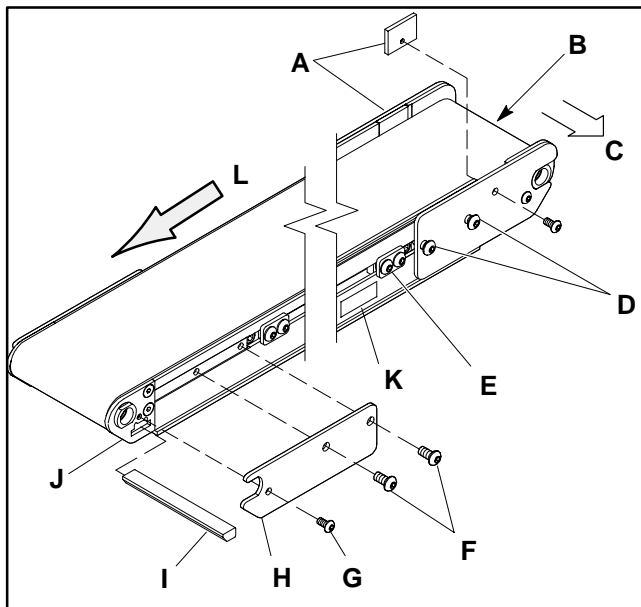

Figure 18
1. If you are working on a high-side conveyor, remove filler plates (A of Figure 18).
2. If engaged, loosen belt tracking cam assemblies (E) on both sides of tensioning end (B), identified with a label (K), and slide them toward middle of conveyor.
3. Loosen tail cover plate screws (D) on both sides of tensioning end of the conveyor.
4. Position tensioning end (B) of conveyor by pushing it back into conveyor frame. This loosens belt sufficiently for removal.
5. Find bottom wiper (I) at discharge end of conveyor. Remove tail cover plate screws (F and G) on one side of conveyor. Remove tail cover plate (H) and slide out bottom wiper (I) through hole in tail plate (J).
6. Remove old belt by sliding it sideways (C) from conveyor.
3. If you are working on a high-side conveyor, remove filler plates (A of Figure 18).
4. If engaged, loosen belt tracking cam assemblies (E) on both sides of tensioning end (B), identified with a label (K), and slide them toward middle of conveyor.
7. Find and remove bottom wiper (I of Figure 18) at discharge end of conveyor. Remove tail cover plate screws (F and G) on one side of conveyor. Remove tail cover plate (H) and slide out bottom wiper (I) through hole in tail plate (J).
3. Re-install bottom wiper (I of Figure 18) and tail cover plate (H).
4. Ensure all hardware is fully tightened except tail cover plate screws (F) on tensioning end of conveyor.
6. If you are working on a high-side conveyor, replace filler plates (A of Figure 18).
7. While holding pinion (AA) in tensioned position, tighten cover plate screws (Z) on both sides of conveyor. Torque screws to approximately 18 in/lb (2.03 Nm).
8. If you are working on a high side conveyor, replace filler plates. Refer to Figure 18 in “Belt Removal for Conveyor Only (No Stands or Gearmotor Mounting Package)” on page 9.